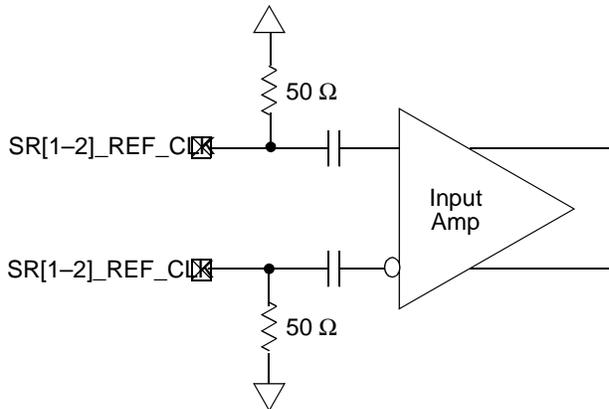

Figure 5. Receiver of SerDes Reference Clocks
The SerDes reference clock inputs are applied to an internal PLL whose output creates the clock used by the corresponding SerDes lanes. The SerDes reference clock inputs are  $\text{SR1\_REF\_CLK}/\overline{\text{SR1\_REF\_CLK}}$  or  $\text{SR2\_REF\_CLK}/\overline{\text{SR2\_REF\_CLK}}$ . Figure 5 shows a receiver reference diagram of the SerDes reference clocks.
- The  $\text{SR}[1-2]_{\text{REF\_CLK}}$  and  $\overline{\text{SR}[1-2]_{\text{REF\_CLK}}}$  are internally AC-coupled differential inputs as shown in Figure 5. Each differential clock input ( $\text{SR}[1-2]_{\text{REF\_CLK}}$  or  $\overline{\text{SR}[1-2]_{\text{REF\_CLK}}}$ ) has on-chip 50- $\Omega$  termination to  $\text{GND}_{\text{SXC}}$  followed by on-chip AC-coupling.